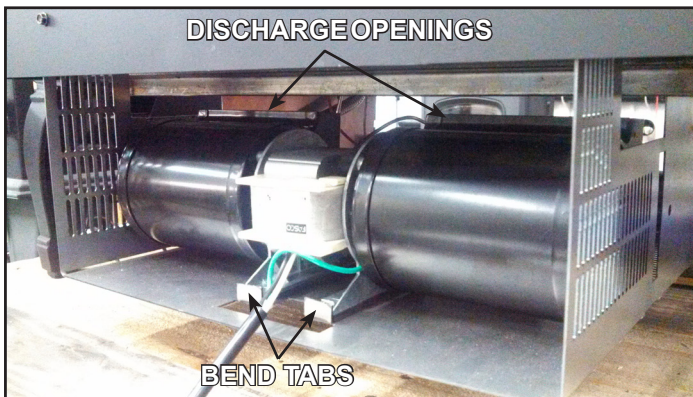

Figure 8.4 - Fan Housing
2. From the rear of the appliance, slide the fan into the fan housing with the magnetic strips down and the rear discharge openings towards the front of the stove. (Note: The magnetic strips should straddle the gas line.) Bend tabs upward approximately 45 degrees, Figure 8.4. It may be necessary to remove the on/off switch wires from the zip tie that holds the gas line as well as from the wire clasp located on the side of the fan housing in order to insert the fan without interference.
1. From the rear of the appliance, slide the fan into the fan housing with the magnetic strips down and the rear discharge openings towards the front of the stove. (Note: The magnetic strips should straddle the gas line.) Bend tabs upward approximately 45 degrees, Figure 8.4. It may be necessary to remove the on/off switch wires from the zip tie that holds the gas line as well as from the wire clasp located on the side of the fan housing in order to insert the fan without interference.